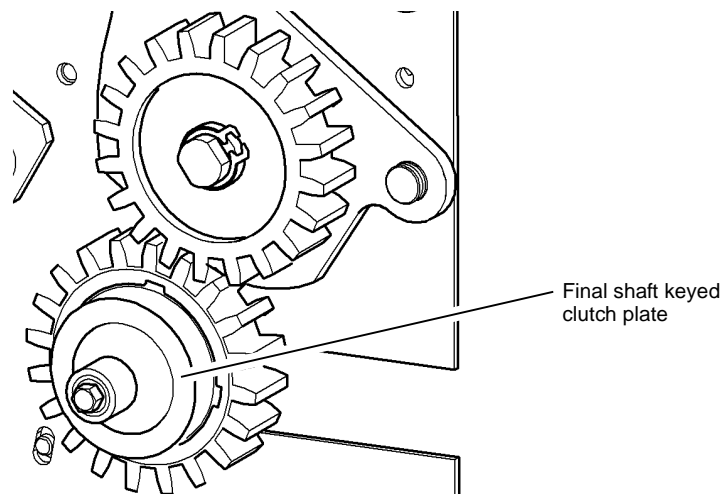

Figure 8 Outer gear keyed clutch plate
- d. **Figure 8**, ensure that the final shaft keyed clutch plate does not come off of the shaft during installation.